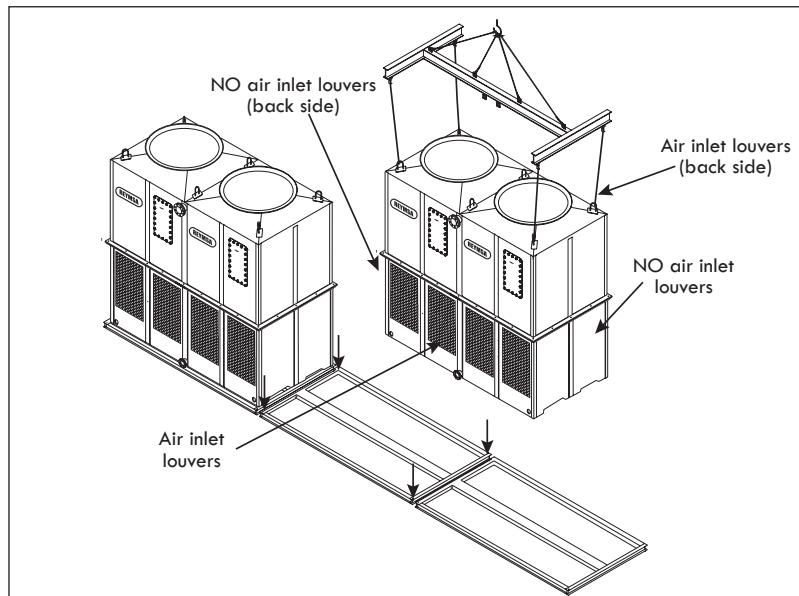

Figure A-68: Second module lifting for a short side arrangement (RTM-B-S)
- B. Follow the same procedure to install the next module. This module should have only two air inlets (on the large sides). See Figure A-68 for reference.